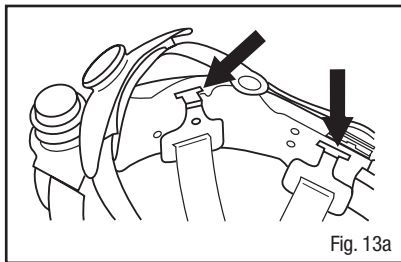

Fig. 13a
- With the headgear upside down, remove the faceseal elastic straps from the head suspension. Once you have disconnected the faceseal, release the head suspension from the headgear shell by pushing upwards on the plastic hangers of the web straps. The hangers are shown in Fig. 13a.